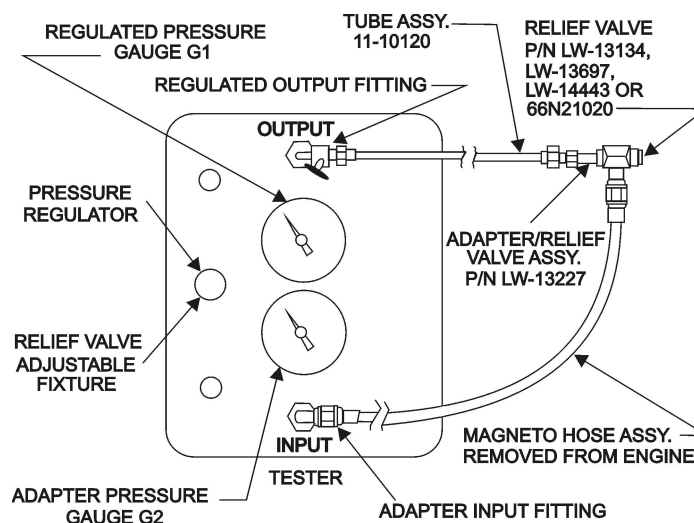

Figure 1. Connections for Relief Valve and System Check
3. Model 11-10090: Connect magneto hose between outlet fitting of adapter and adapter input of tester as shown in Figure 1.